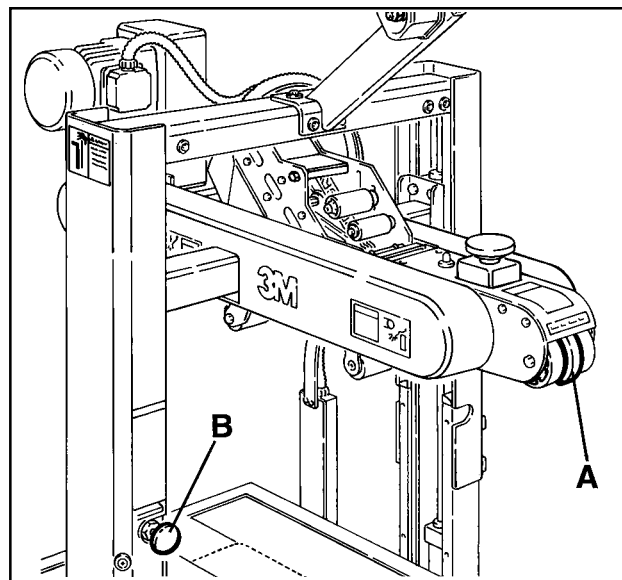

Figure 3-6 – Mechanical Latch, Upper Drive Assembly
- ⑨ **Mechanical Latch, Upper Drive Assembly – Figure 3-6**